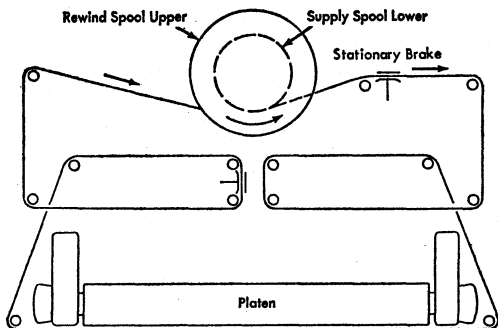

Figure 6. Ribbon Threading Diagram
4. Unwind sufficient ribbon from the spool and thread it toward the right through the deflector rolls, ribbon guides and brakes on the auxiliary carriage, but by-pass the stationary brake (Figure 6).